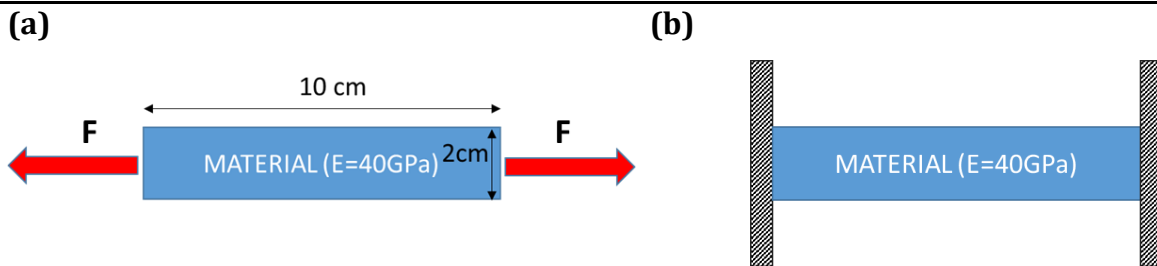

Figure 3b.1 | (a) Loaded bar, (b) Clamped bar.
Consider the squared cross-section axial bar of Figure 3b.1. The thermal expansion coefficients of the material is $10 \cdot 10^{-6} K^{-1}$ and its Young modulus is 40 GPa. The initial temperature is room temperature (25°C). The tensile load is 480 N.
- We put the bar in a 500°C furnace (Figure 3b.1.a).
- Still in the furnace, we clamp the bar on its longitudinal ends (Figure 3b.1.b) and, from the furnace, put it in liquid Nitrogen (-200°C).